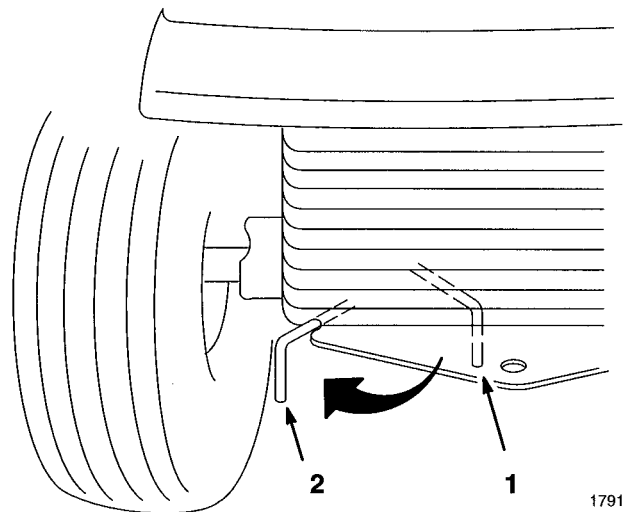

Figure 11
2. Hook the drive control in the “PUSH” position. This disengages the drive system and allows the wheels to turn freely (Fig. 11).
1. MOVE the drive control to the “OPERATE” position. This engages the drive system (Fig. 11).